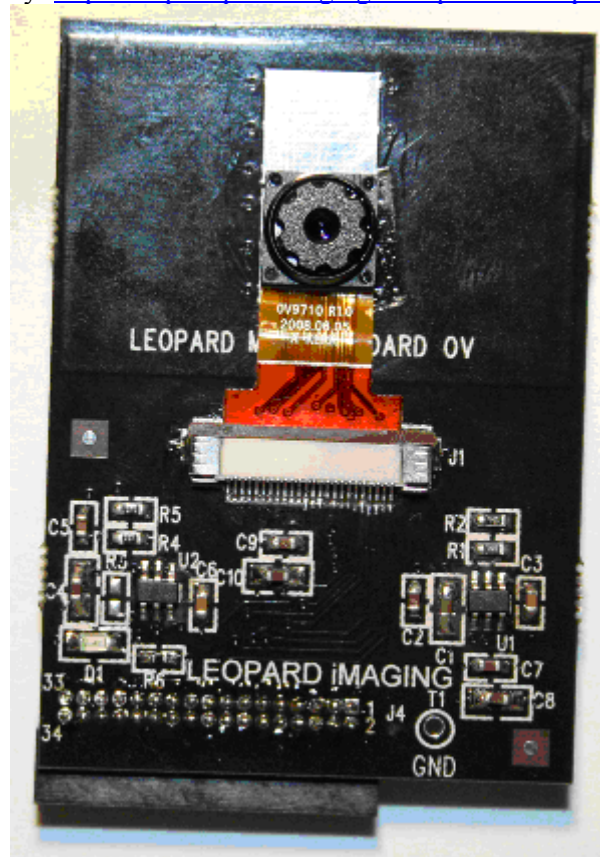

Figure 14. Omni Vision 720p
1.2.5.8 Omni Vision 720p Camera Board, see Figure 14